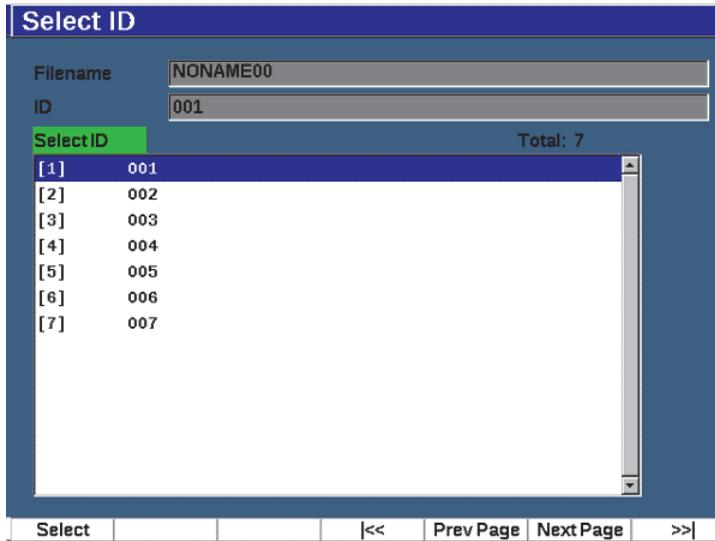

Figure 10-17 The Select ID menu
- ◆ Choose **File > Select ID** elect from a list of all the available IDs in the currently open file (see Figure 10-17 on page 208).